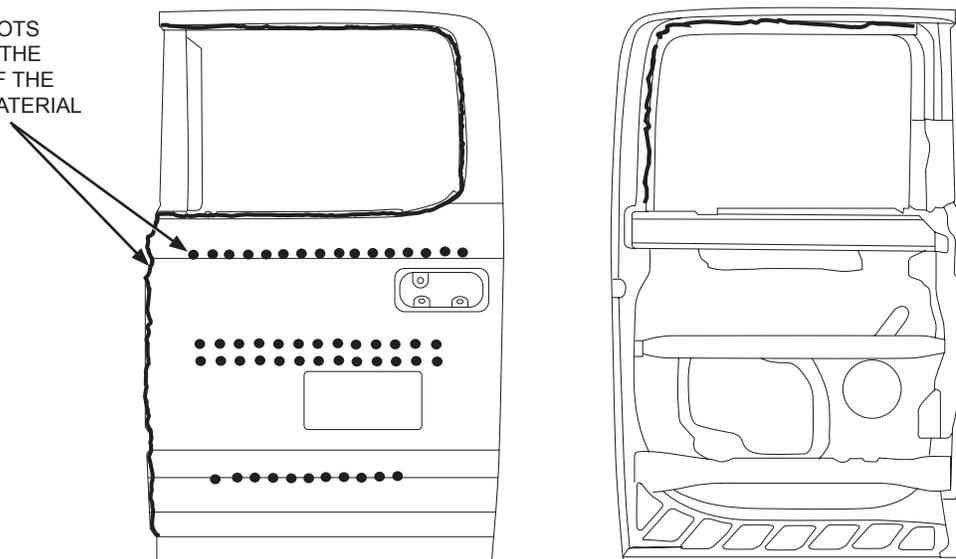

FIGURE 1
2. Replacement Self-Piercing Rivets (SPRs) are the preferred replacement during repair for original SPR locations, where feasible. Hemlocks are the next preferred replacement for original SPRs. (Refer to Figure 1).
7. Insert TOOL 501-078-1 (RH) or TOOL 501-078-2 (LH) in an air impact gun (620 kPa (90 psi) air pressure is required for consistent tool operation). Using the tool, open the hem flange around the perimeter of the panel.
15. Apply metal bonding adhesive to the following areas: service replacement hem flange, flutter beam-to-outer panel, and outer belt reinforcement-to-outer panel. (Refer to figure 1).
NOTE: The location of SPR and adhesive shown below are based on the original production drawings and should only be used as a guideline. (Refer to Figure 1).